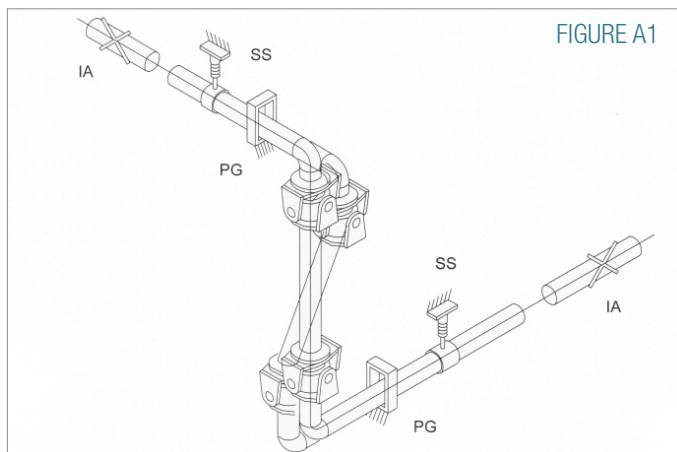

FIGURE A1
Gimbal expansion joints are designed to offer advantages in multi-plane systems with the ability to absorb angular rotation in any plane is most frequently applied by utilising two such units to absorb lateral deflection. An application of this type is shown in Figure A1. Since the pressure loading is absorbed by the gimbal structure, intermediate anchors only are required. Planar guides are provided to restrict the movement of each piping leg. As in the case of hinged expansion joints, the location of pipe supports is simplified by the load carrying ability of the gimbal structure. Since, in a two gimbal system, the growth of the vertical pipe leg will be absorbed by bending of the long legs, spring supports (SS) may be required on either or both of these. Guides must be designed to allow for the thermal expansion of the leg containing the expansion joints and for the shortening of this leg due to deflection.